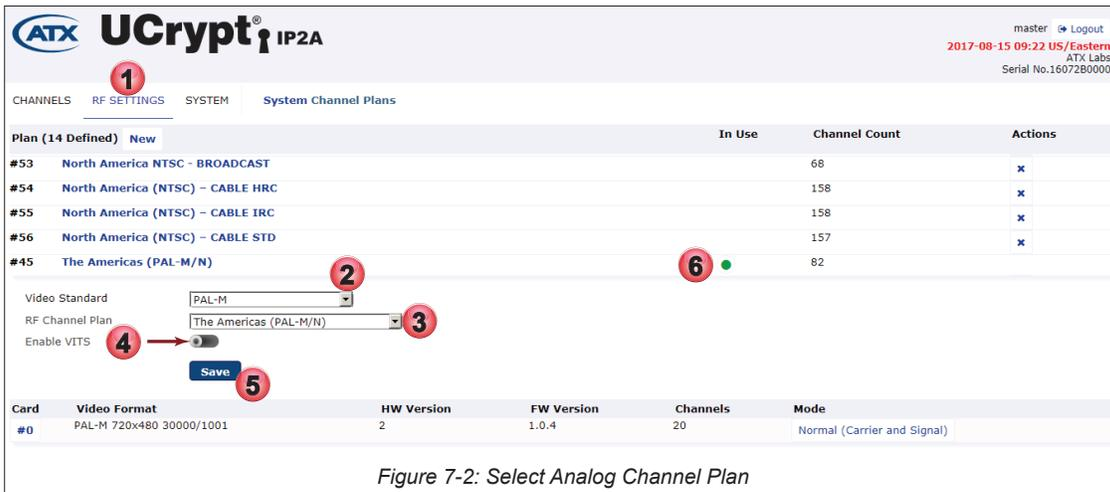

Figure 7-2: Select Analog Channel Plan
1. Click **RF Settings** tab if it isn't already selected, Figure 7-2.